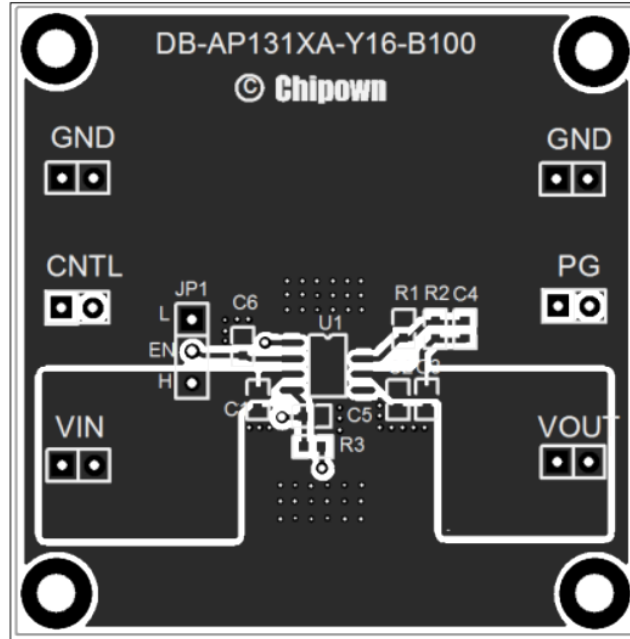
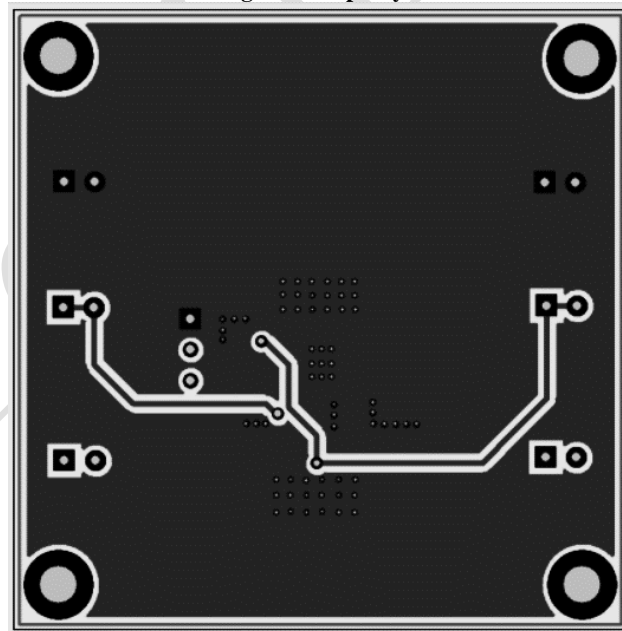

Figure 3. Top Layer
Figure 4. Bottom Layer
5. Figure 4. Bottom Layer Figure 3. Top Layer Large current paths must have wide tracks.